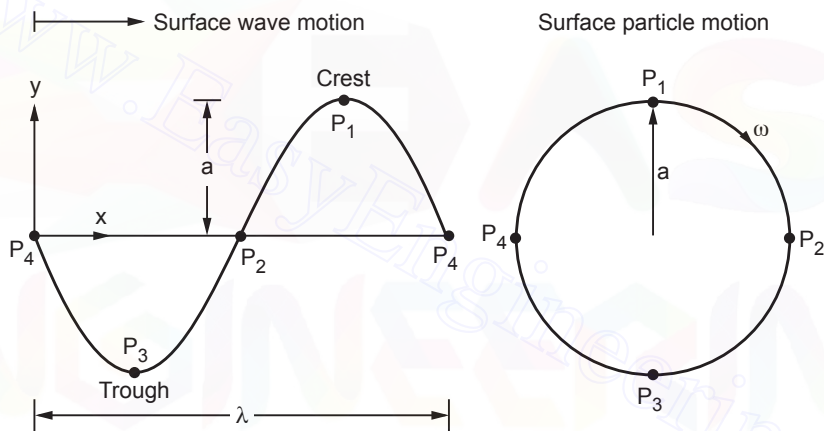

Fig. 5.2.1 Surface wave motion and surface particle motion
- The characteristics of an ideal deep-water surface wave (water depth more than about half the wavelength) are shown in Fig. 5.2.1.